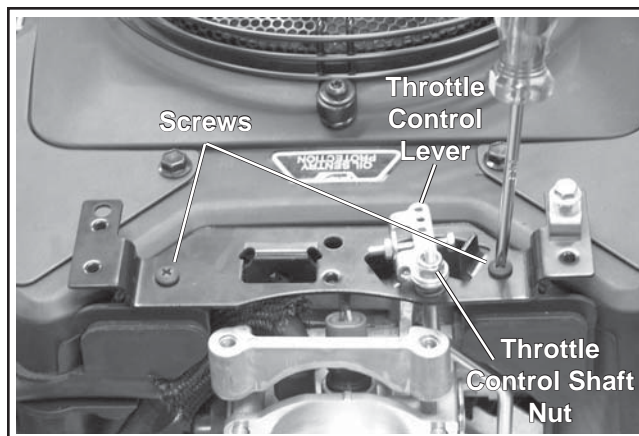

**Figure 8-8. Removing Low-Profile Element and Precleaner.**
3. Remove the element cover, element and precleaner. See Figure 8-8.
4. Remove the three hex flange nuts securing the air cleaner base. See Figure 8-8. Two additional lower hex flange screws must be removed from the lower air cleaner support bracket.